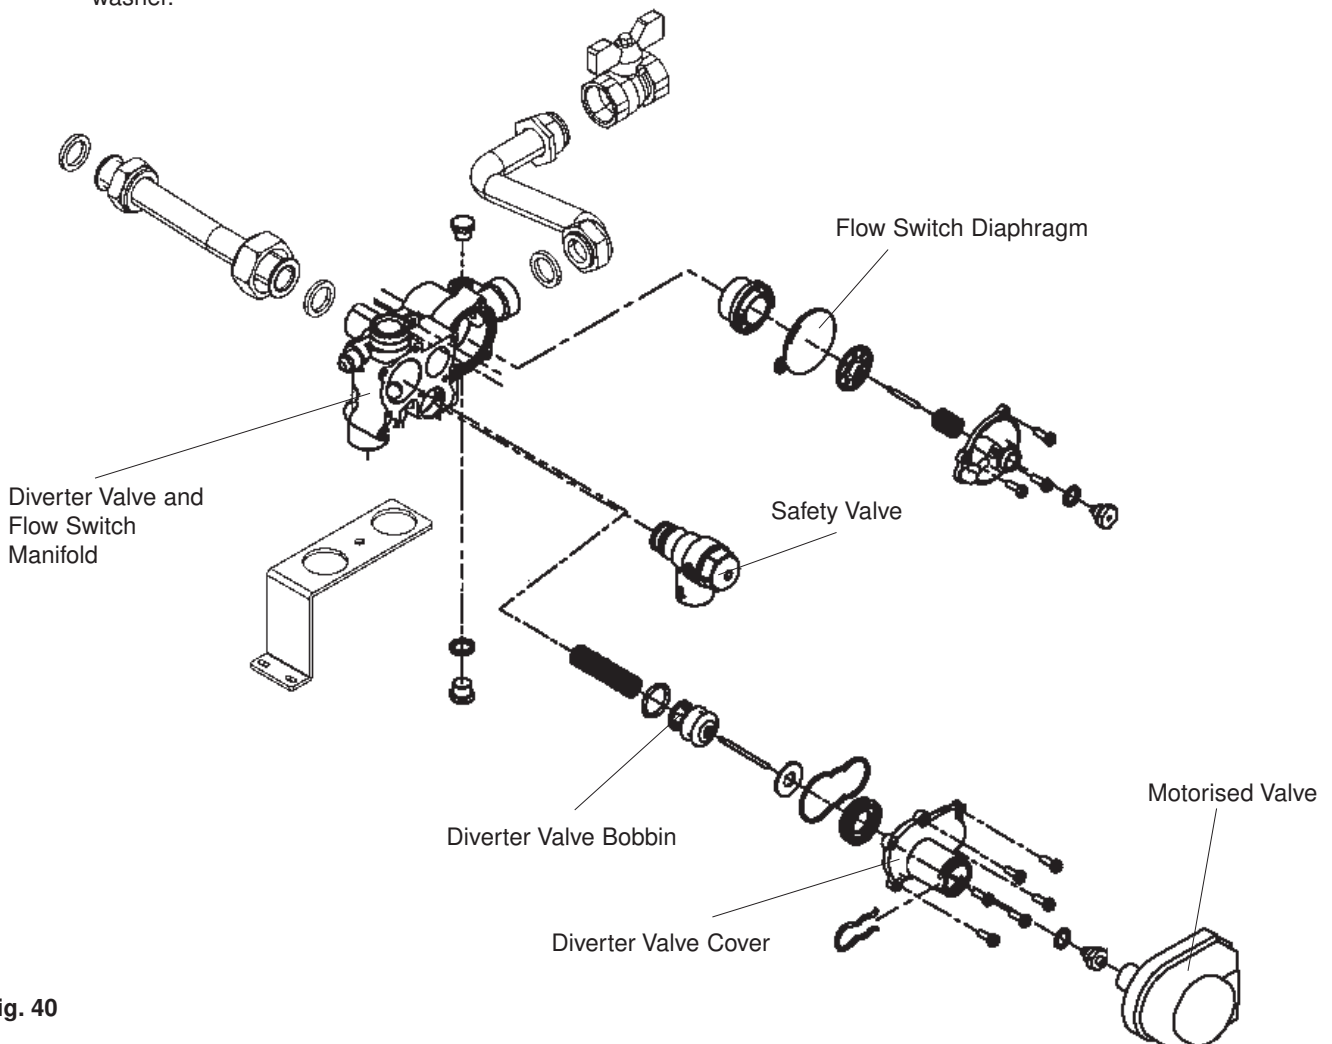

Fig. 40
- 8.18.10 Withdraw hydraulic group from appliance. See Fig. 40 for further disassembly.
Refer to fig. 40
- 8.21.6 See Fig. 40 for further disassembly and location of components.